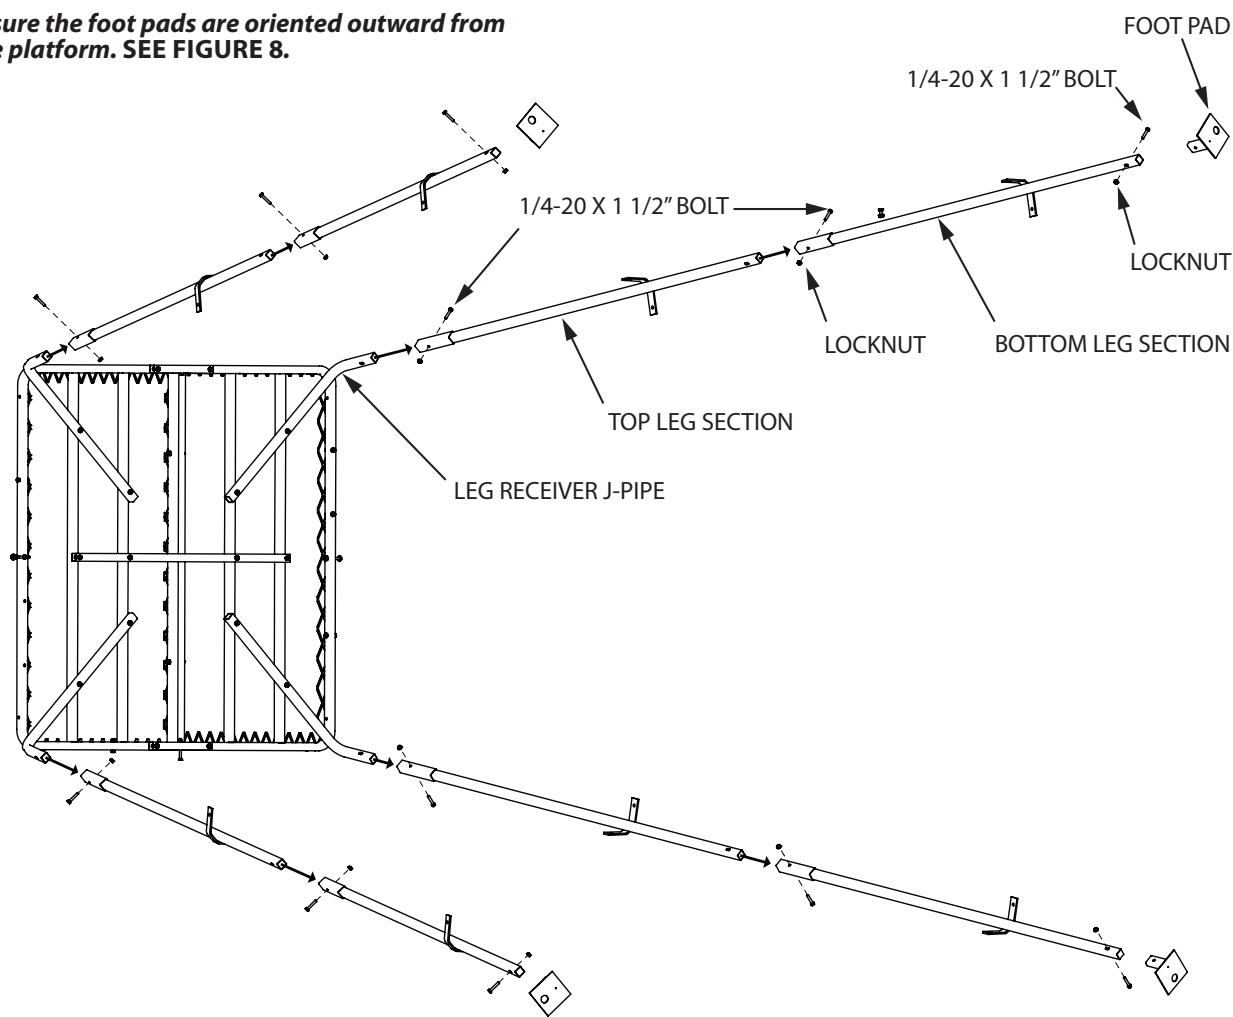

FIGURE 8
12. Attach foot pads (TP113) to four of the eight leg sections (TWR20) using (4) provided 1/4-20 x 1-1/2" bolts and locknuts. **SEE FIGURE 8.** This step now makes these four legs, the bottom section legs.
NOTE: Be sure foot pads are oriented correctly in relation to the welded on bracket of leg section. Channel on foot pads should cradle on three sides of the leg sections. SEE FIGURE 8.
13. Insert each of the four remaining (top) leg sections into the bottom leg sections by inserting into pocketed end of bottom leg section. Attach each section together using (4) 1/4-20 x 1-1/2" bolt and locknut. **SEE FIGURE 8.**
NOTE: Be sure the welded on brackets on each leg section are oriented correctly in relation to each other. SEE FIGURE 8.
14. With assembled platform section laying on its side, insert all four assembled leg sections onto each leg receiver J-pipe using (4) provided 1/4-20 x 1-1/2" bolts and locknuts. **SEE FIGURE 8.**
NOTE: Be sure the foot pads are oriented outward from the platform. SEE FIGURE 8.